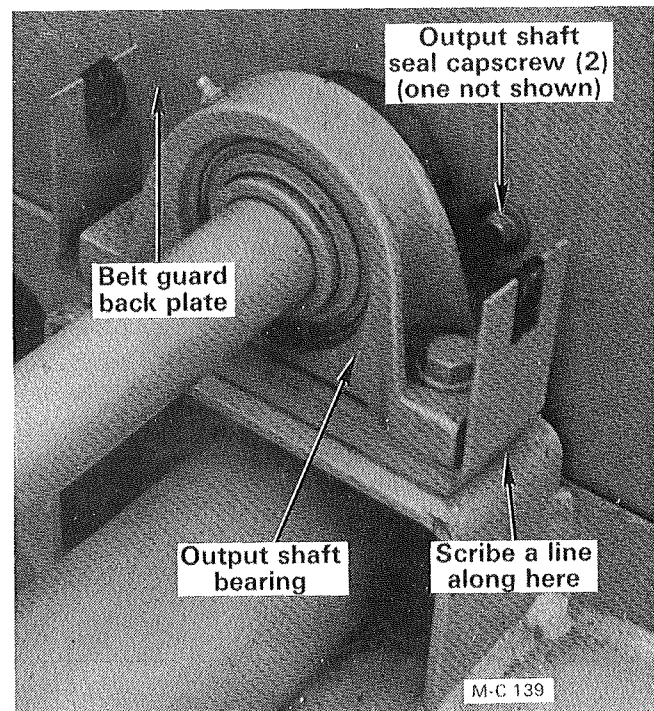
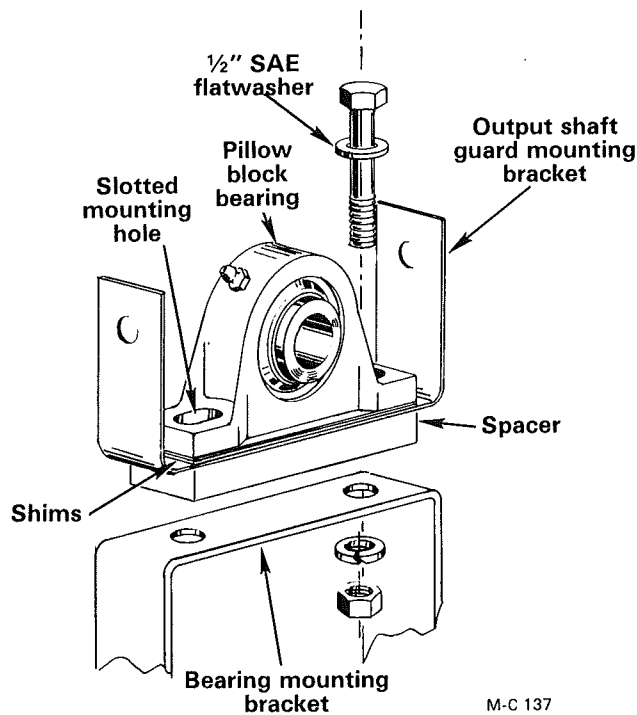

Figure 32
Figure 33
5. Scribe a line on the output shaft bearing mounting bracket as shown in Figure 32 to establish the location of the new bearing when reassembling.
6. Remove the two bearing lock collar set screws, two capscrews, lockwashers and hex-nuts securing the output shaft bearing. Lift up on the output shaft and remove the spacer, output shaft guard bracket and shims from under the output shaft bearing, see Figure 33.
10. Install the drive belts. Install the output shaft seal, see Figure 32.
11. Lift up on the output shaft and place the spacer, output shaft guard bracket and shims on the output shaft bearing mounting bracket, see Figure 33. Install the capscrews, SAE flatwashers, lockwashers and hex-nuts. Align the edge of the output shaft bearing with the mark scribed on the mounting bracket made in step 5, see Figure 32. Tighten the output shaft bearing capscrews and set screws in the bearing lock collar.